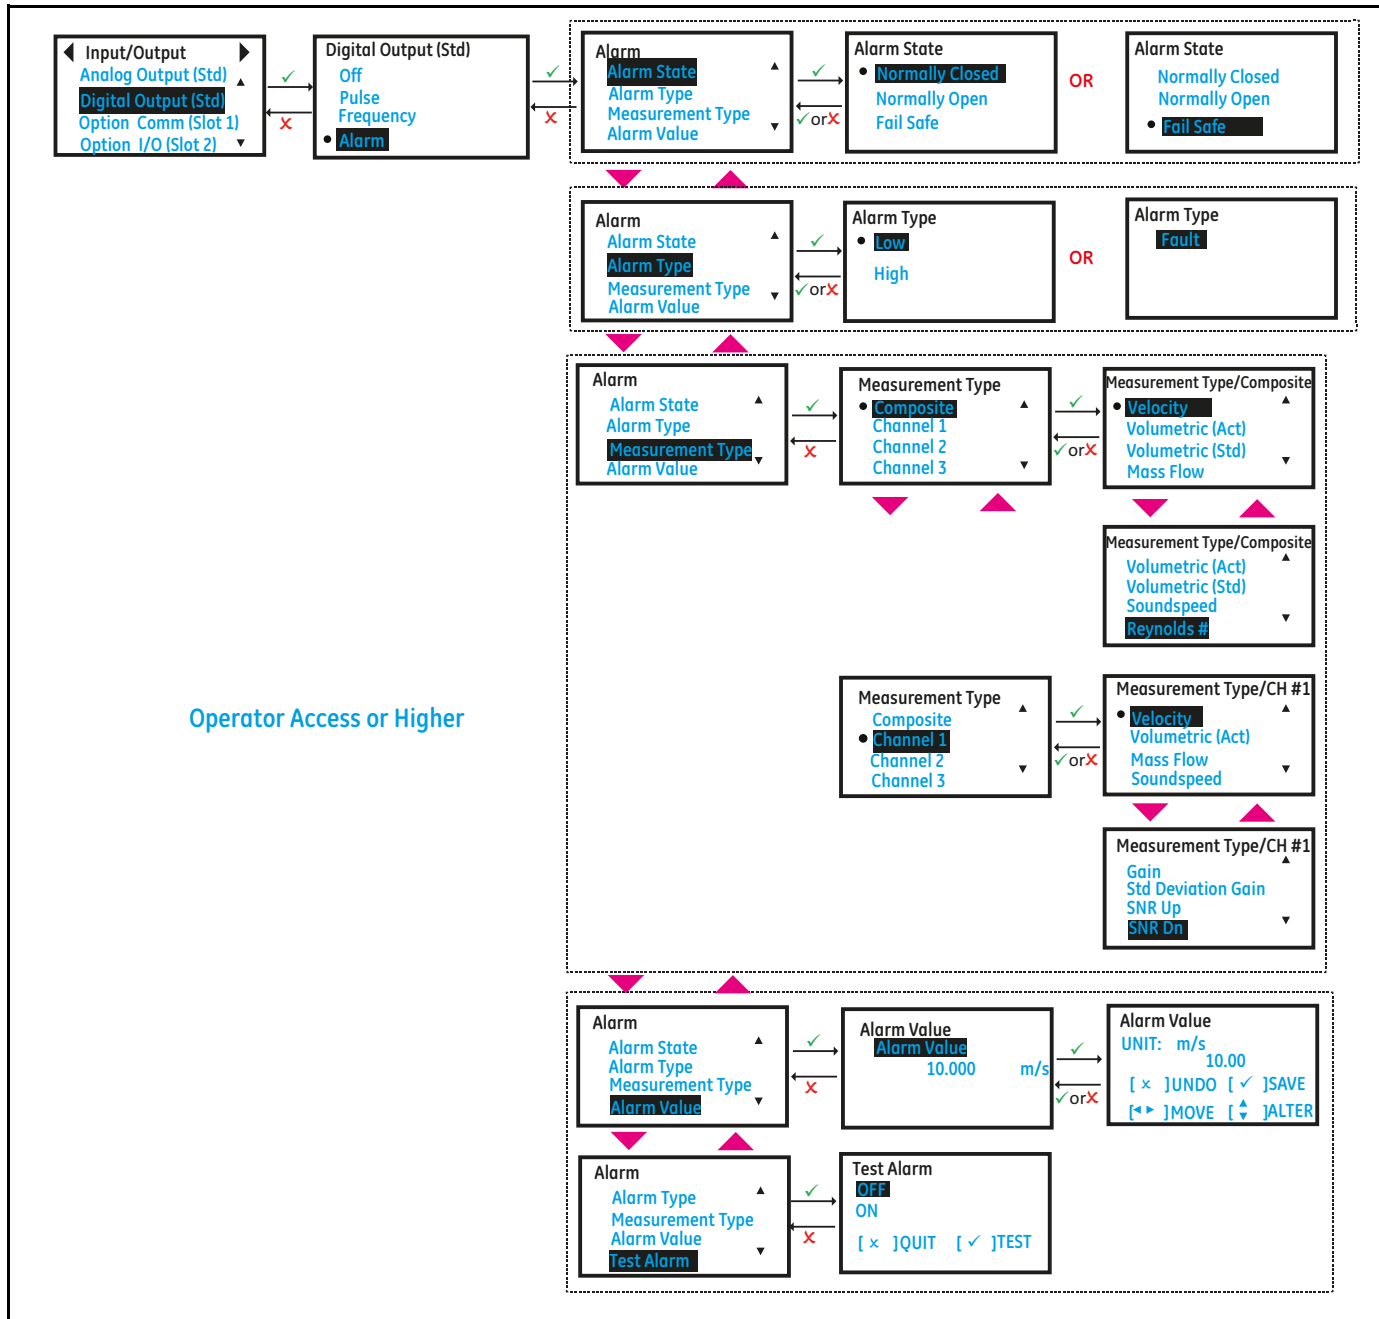

Figure 26: Setting up Alarm Output
2. Select the **[Alarm State]**, **[Alarm type]**, **[Measurement]** and **[Alarm Value]** options to suit your needs. The Figure 26 below, shows the available options. Also refer to the Table 12 below to understand each option.